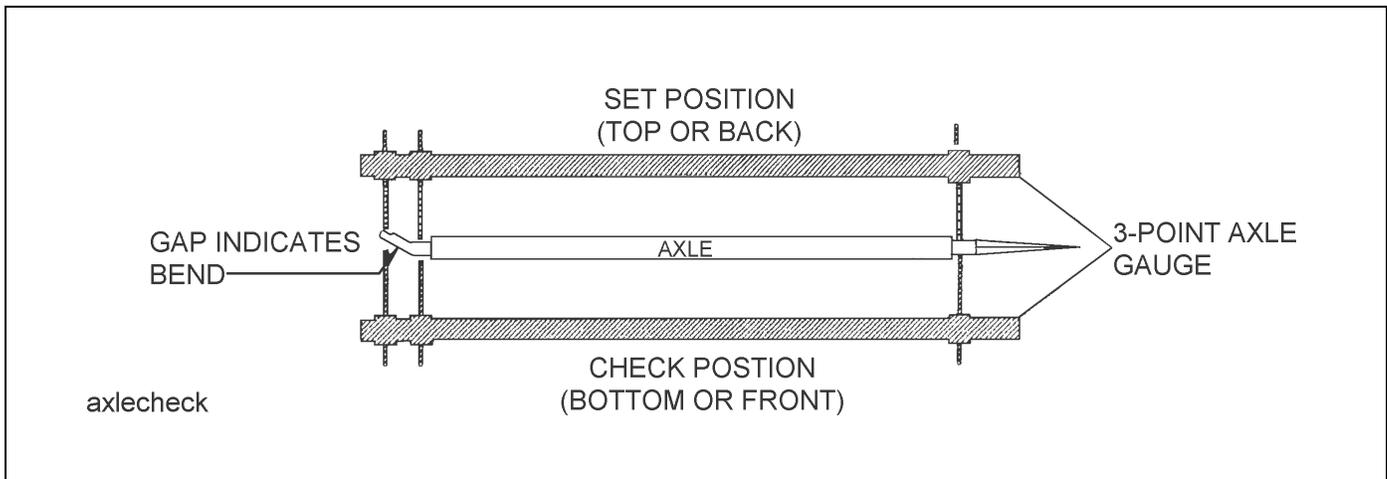

Figure 4-2: Checking Axle for Bend
- Place a 3-point axle gauge against the front side of the axle, and adjust each axle gauge point to the axle. (Double point end against the inner and outer wheel bearing surfaces of the spindle being checked and the other point on the inner bearing surface on the other spindle (See Figure 4-2.)
- Move the axle gauge and place against the back side of the axle. If either of the points of double point end fails to touch the axle surface, a bent spindle is evident. A point gap of .015" or more is considered excessive tire "toe" and the axle must be replaced (See Figure 4-2.)